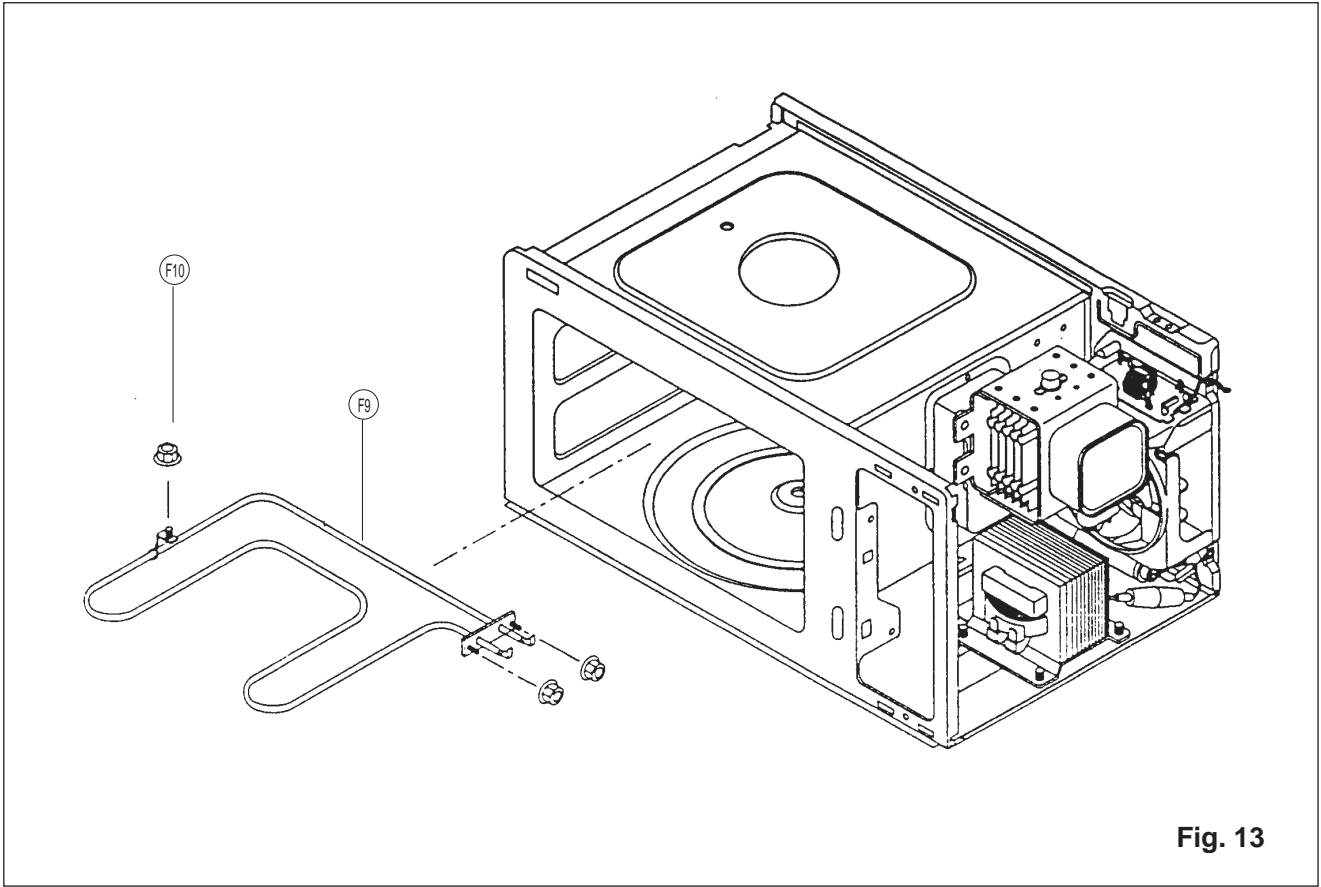

Fig. 13
11. To remove grill heater assembly (Refer to Fig. 13)